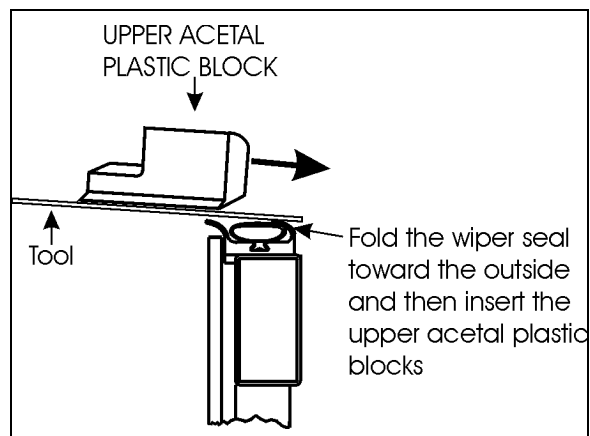

FIGURE 27 : LOWER ACETAL PLASTIC BLOCK INSERTION
5. Reinstalling the upper acetal plastic blocks. Fold the wiper seal toward the outside with a flat tool to ease installation (FIGURE 27). Tighten the mounting screws to a torque of 7 ft-lb. Leave no gap between the blocks and the rail.